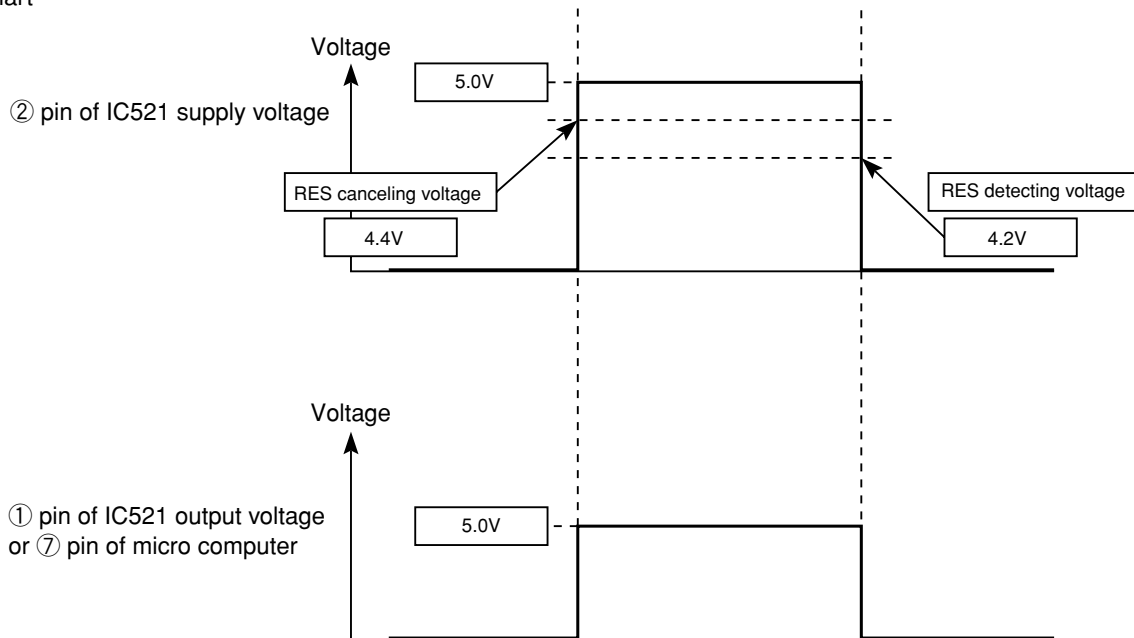

Fig.2-2
- Micro computer operates when ⑦ pin of the indoor unit micro computer (reset input) is "Lo" for resetting and "Hi" for hitting.
- Waveform of each part when switching ON the power and when shutting down is shown in the Fig. 2-2.
- After switching ON the power, ① pin of IC521 and ⑦ pin of micro computer becomes Hi when DC5V line rises and reaches approximately 4.4V or higher. Then, resetting will be cancelled and micro computer starts operating.
- After shutting down the power, ① pin of IC521 and ⑦ pin of micro computer becomes Lo when DC5V line falls and reaches approximately 4.2V or lower. Then, the micro computer will be in reset condition.